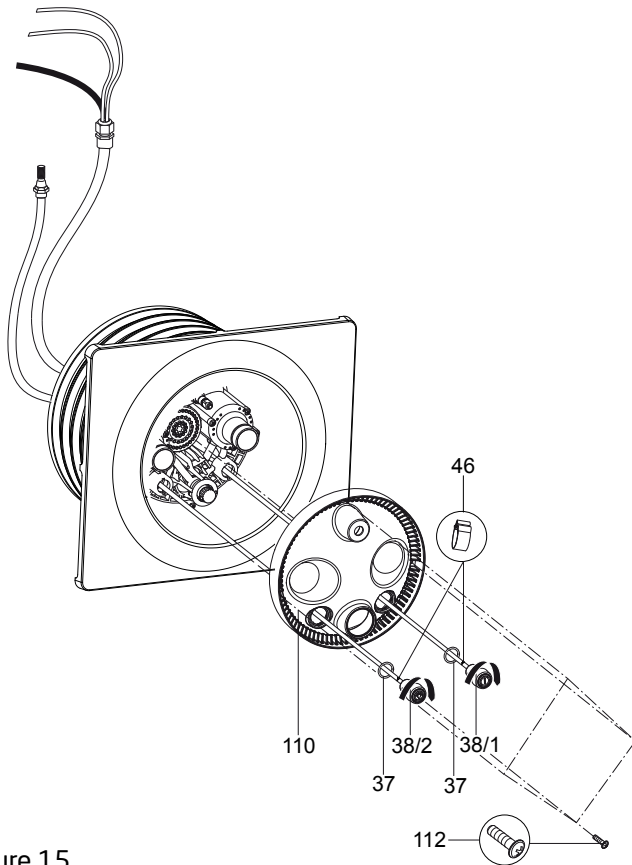
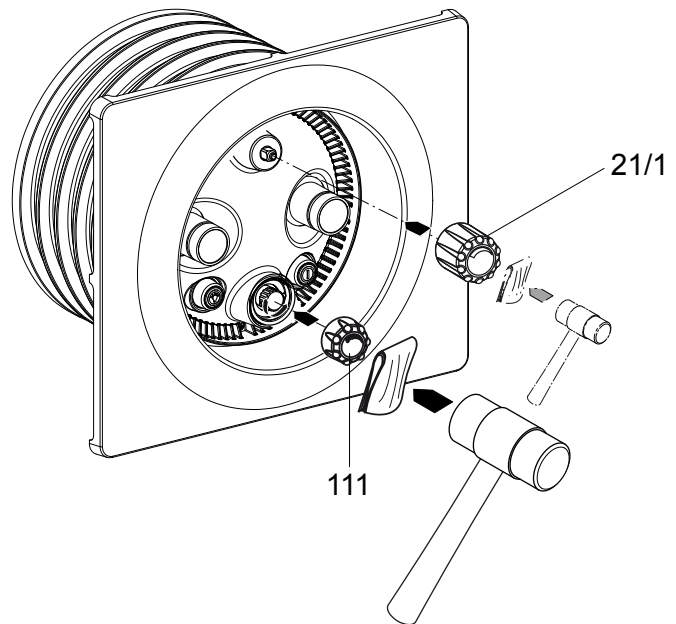

Figure 15
Figure 16
8. Guide the air tubing through the two (2) bottom openings of the light cover (part# 110).
NOTE: Light ON/OFF button is on the left and the pump ON/OFF button is on the right. Align the light cover with the nozzle housing and secure with four (4) light cover tapping screws (part# 112). (See Figure 15)
9. Slide one (1) o-ring (part# 37) onto each air button. Fasten each length of air tubing to the corresponding buttons using the hose clamps (part# 48). Insert the two (2) air buttons through the light cover and into the nozzle housing and lock them by turning them clockwise until they 'click' into place.
10. Mount the volume control knob (part #21.1) and air regulator knob (part #111) by means of a rubber mallet and a protective cloth. (See Figure 16)